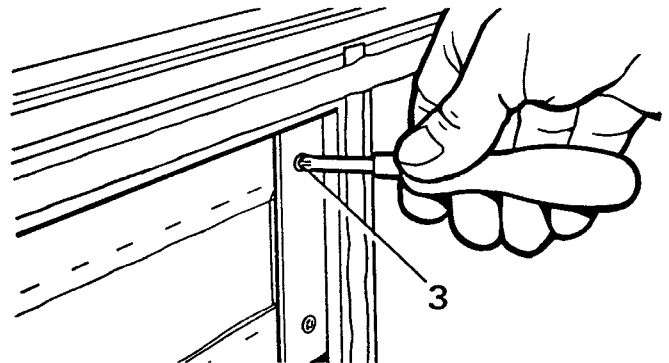

Figure 3
3. Remove the four retaining screws and detach the back rest. See Figure 3.